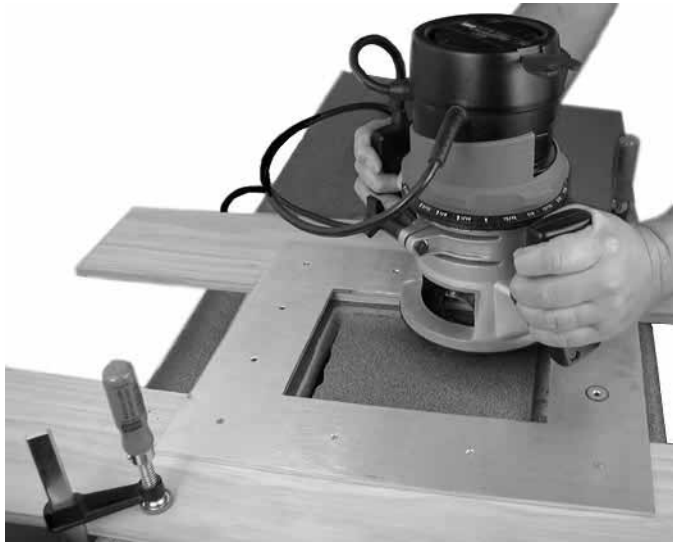

Figure 4. Cutting the Opening with a Router
3. Once the template assembly is positioned properly, secure the assembly to the table with C-clamps (see figure 4, on the next page).
- Using a router with a 5/8-inch (or 16 mm) outside diameter guide bushing and a 1/2-inch (or 12 mm or 12.7 mm) diameter straight router bit, carefully cut the opening in the table surface (see figure 4).